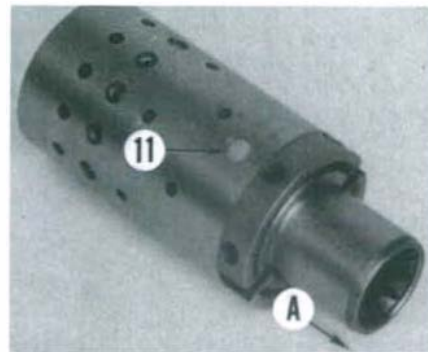
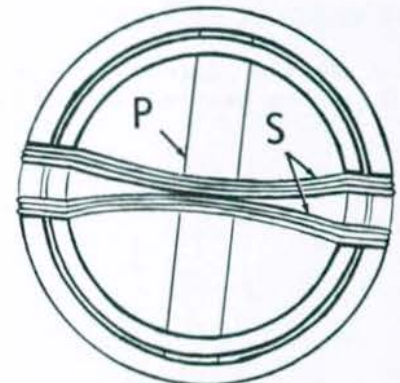
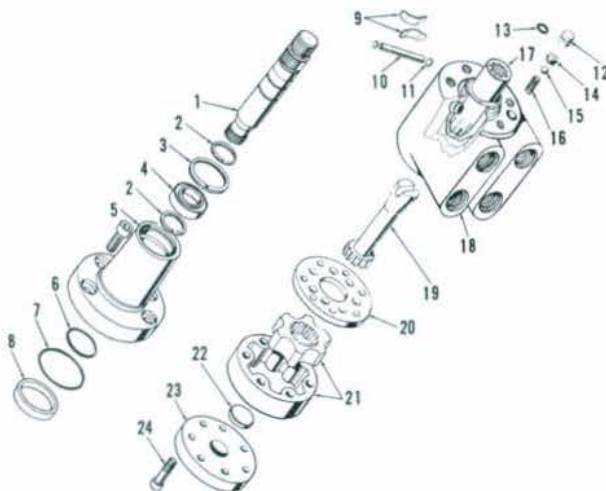

Fig. 25—View of control spool end and sleeve assembly. Teflon discs (11) cover outer ends of internal pin. Withdraw spool from sleeve in direction of arrow (A).
Fig. 25A—Schematic end view of steering control sleeve and spool showing correct assembly of centering springs (S) and drive pin (P).
Fig. 24—Exploded view of Char-Lynn Orbitrol hydrostatic steering hand pump used on MF235 and MF245 Orchard models.
spool (17—Fig. 24) and housing (18) are available as a matched set only.
To disassemble the removed unit, first remove cap screws (24) and withdraw end plate (23), gear set (21), spacer (20) and drive link (19) as a unit. Unbolt and remove upper housing (5) and input shaft (1) as a unit. Withdraw the control spool and sleeve (17) as a unit from bottom end of housing. Remove Teflon discs (11), then push pin (10) and centering springs (9) out of sleeve. Carefully slide spool (splined end first) from sleeve (Fig. 25). Insert a bent wire through port in valve body and push plug (12—Fig. 24) from body, then remove check valve seat (14) using an Allen wrench. Remove check ball (15) and spring (16).
When assembling the unit, tighten check valve seat (14) to a torque of 17 N·m (150 in.-lbs.). Assemble spool in sleeve making sure spool rotates smoothly in sleeve. Align spring slots in spool and sleeve, then insert centering springs (two sets of three each) so arched center sections are together as shown in Fig. 25A. Insert pin (10—Fig. 24) into spool and sleeve assembly and install a Teflon disc (11) at each end of pin.
Be sure pin slot in drive shaft (Fig. 26) is aligned with a valley of inner rotor to ensure correct timing of control sleeve. If drive slot is improperly aligned, steering unit will operate in reverse or "kick back" when hydraulic pressure is applied. Assemble drive link (19—Fig. 24), spacer (20), gear set (21) and spacer (22) onto valve body. Note that spacer (22) should be flush with outer surface of gears if drive link is properly engaged with control spool pin. Install end cover (23) and tighten retaining cap screws evenly to 17 N·m (150 in.-lbs.) torque.